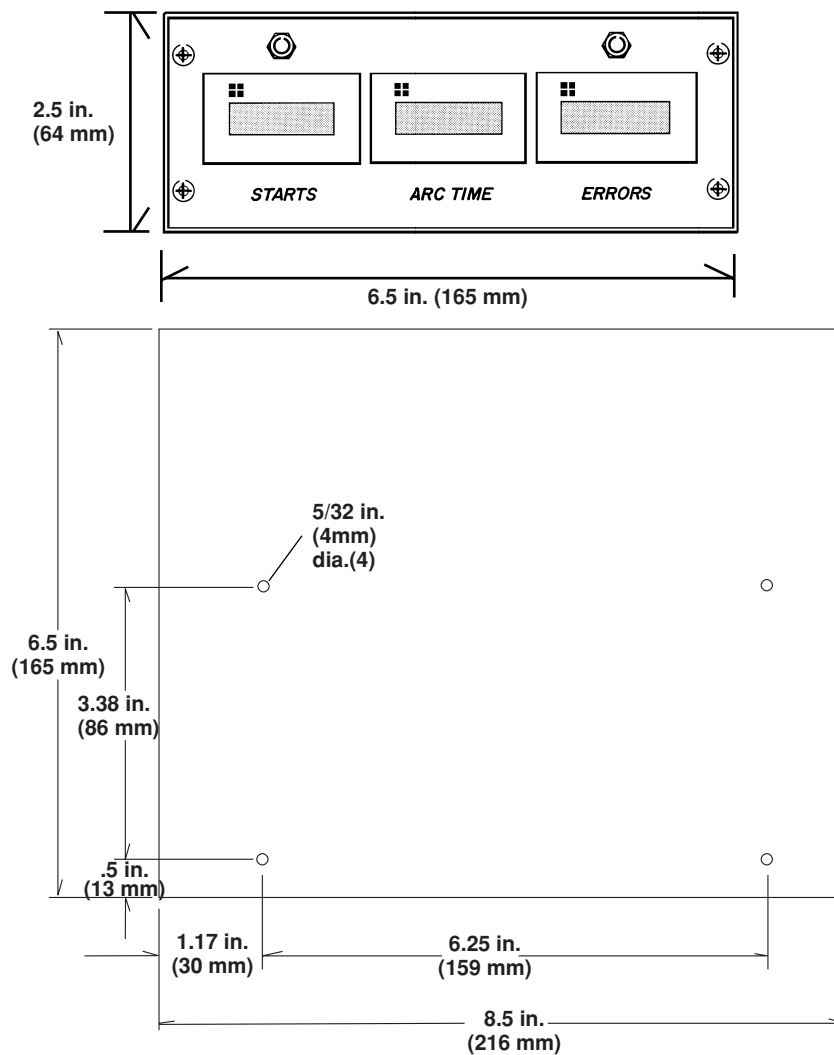

Figure b-1 Timer-Counter Dimensions and Mounting Holes
1. Mount the timer-counter for easy access, refer to Figure b-1 for dimensions. For fixed mounting of the timer-counter, four mounting holes are located on the bottom.